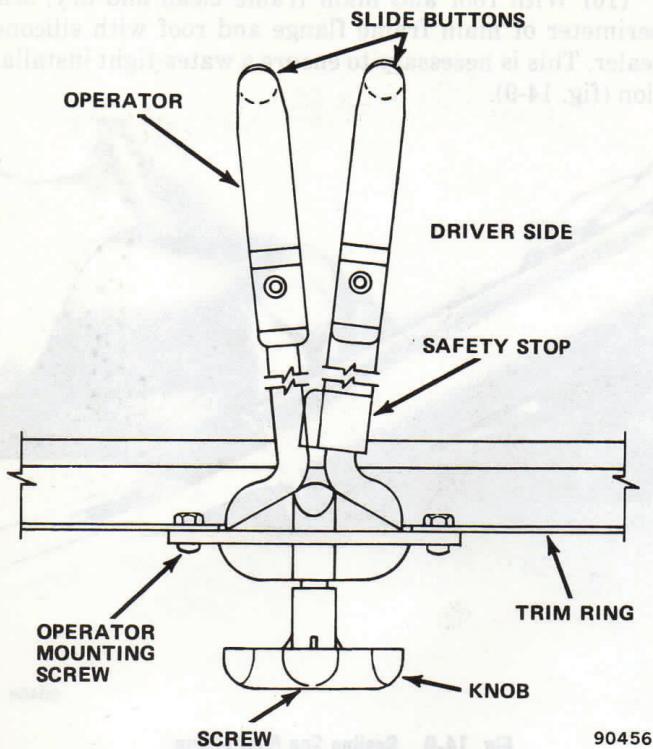

Fig. 14-11 Operator Installed on Trim Ring
(20) Install operator on trim ring with two pan-head machine screws and nuts. Slide buttons on operator lever arms must face rear of vehicle (fig. 14-11). Install knob on operator and attach with machine screw.
(21) Slide up safety stop on driver side lever arm (fig. 14-11) and turn knob clockwise until arms meet in vertical position. Position hinged edge of sun roof panel on front of main frame 110 degrees from full closed position and interlock hinges by pivoting panel toward closed position. Engage slide buttons on operator lever arms with slide channel at center opening.
(22) Turn operator knob counterclockwise (safety stop will automatically release) until sun roof panel is in fully closed position and tightly sealed.